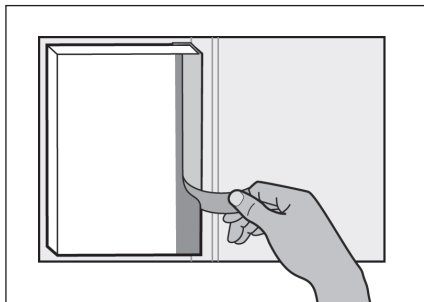

FIGURE 22
- 11a. Flip the book over. Open the back cover and remove the remaining release paper (figure 22).